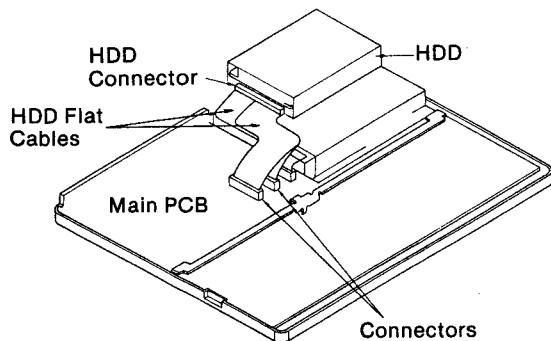

Figure 19
- (3) Gently pull up the HDD flat cables from the connectors on the main PCB as shown in Figure 19.